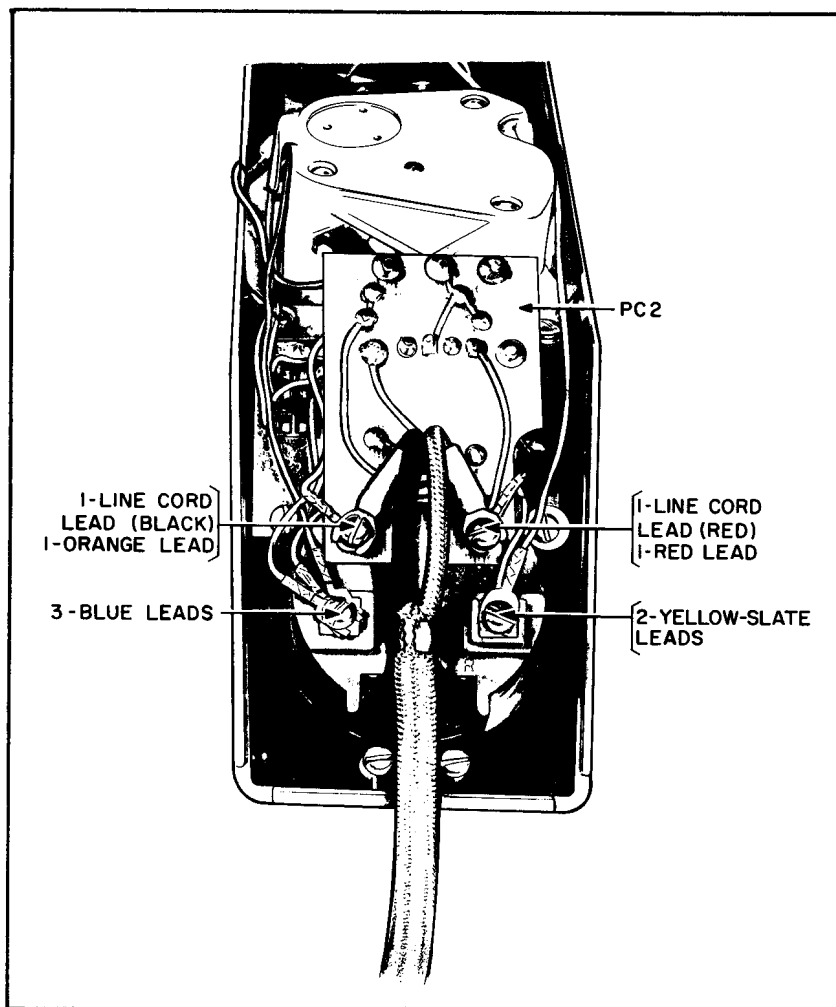

FIGURE 10. QSE4 Type handset—Cover
- b. Disconnect and replace the line cord, ensuring that the cord is properly dressed in the housing (see Figure 10 foldout).
- b. Remove the two screws (6) which fasten the line cord leads and the red and orange leads to the transmitter cup terminals. Fold the red and orange leads to the sides of the handset.
- c. Remove slate-red lead from under dial plate screw (1), the white lead connected to terminal C of PC2, the yellow-slate lead from under terminal R on the transmitter cup (TB) and the red and blue leads from (TB2) to (S3).
- f. Carefully place new PC2 (P0500416) into position and ensure that the yellow-slate lead is dressed between the transformer on PC2 and the transmitter cup (TB) and that the transformer bobbin rests on the raised portion of the instrument section housing between the dial and pushbutton (S1). The bracket of the transformer should now be located over the pushbutton.
- h. Insert the two screws (6) through the mounting holes in PC2 and into the terminal screw holes in the transmitter cup.
- i. Ensure that the line cord is passed through the cord hole in the handset back cover (23).
- j. Connect the red lead, which was moved to one side of the handset in paragraph b. above, and the red lead of the line cord, to the terminal immediately above terminal "R" on the transmitter cup (see Figure 10). Tighten this connection.
k. Connect the orange lead which was moved to one side of the handset in paragraph b. above, and the black line cord lead to the other PC2 mounting terminal (rocker switch side) and tighten the mounting screw (see Figure 10).
l. Dress leads and line cord as shown in Figure 10.